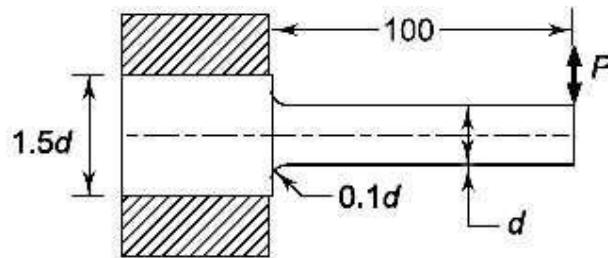

Figure 6.5
7. A cantilever beam made of steel Fe540 ($S_{ut} = 540 \text{ N/mm}^2$ and $S_{yt} = 320 \text{ N/mm}^2$) and subjected to a completely reversed load (P) of 5 kN is shown in Fig. 6.5. The beam is machined and the reliability is 50%. The factor of safety is 2 and the notch sensitivity factor is 0.9. Calculate: (i) endurance limit at the fillet section; and (ii) diameter d of the beam for infinite life.
- Beam Type: Cantilever (Length from fixed end to load = 100 mm, as per Fig. 6.5)
- From Fig. 6.5: